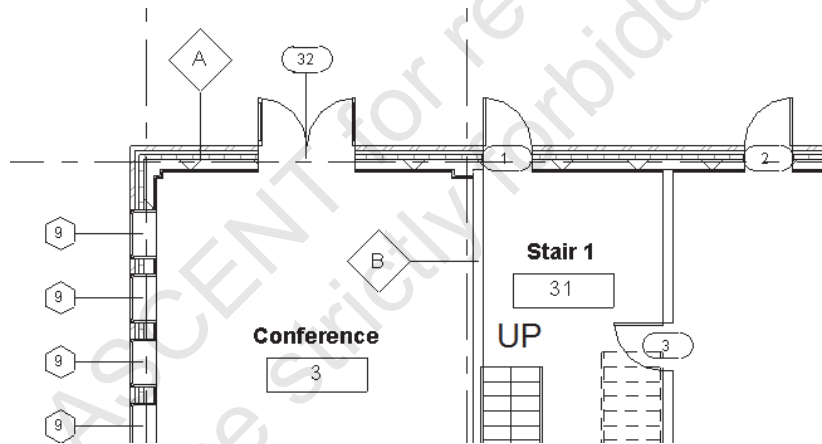

Figure 1–57
Tags and symbols are 2D component families that must be loaded into a project. Not all types of tags need to be in each project, so you can choose which ones you want to include in your templates. For example, if you are working in an architectural project, you can load tags such as the door, window, and wall shown in Figure 1–57.
2. In the Loaded Tags and Symbols dialog box, use the *Filter list* field to limit the types of tags you are looking for by discipline, as shown in Figure 1–58.